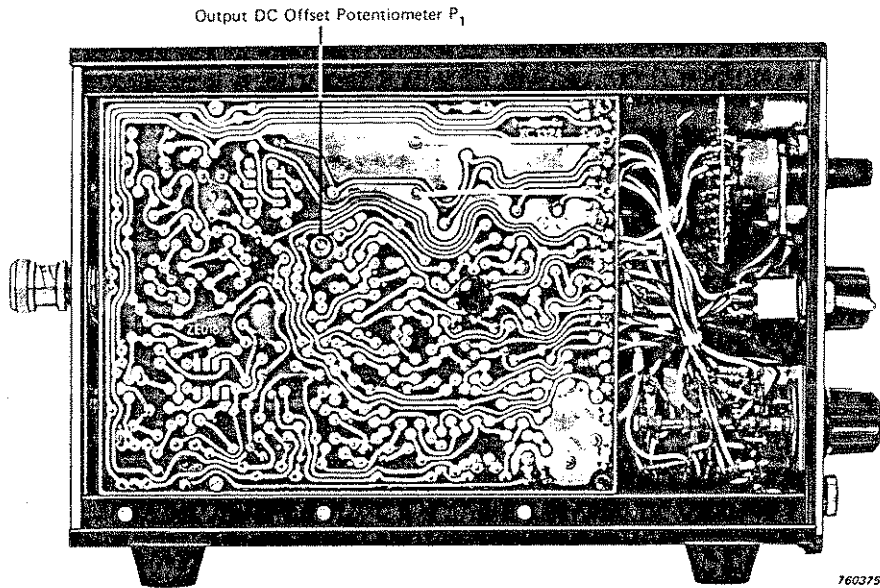

Fig.3.4. Output DC offset voltage adjustment potentiometer  $P_1$
4. Connect a DC voltmeter such as the B & K Digital Type 2427 to one of the OUTPUT sockets and using a small screwdriver adjust the preset potentiometer  $P_1$  shown in Fig.3.4 so that the output DC offset voltage indicated by the voltmeter is zero. Check that the offset voltage remains zero when the side panel of the Amplifier is replaced.